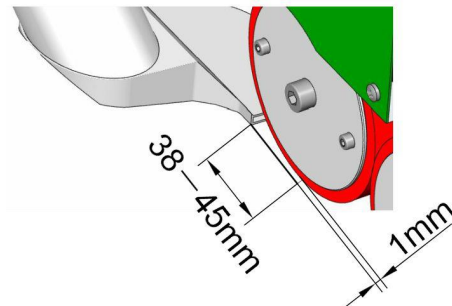

Figure 6
2. The distance between hot air nozzle and drive roller should be shown as figure 6. (We have adjusted the distance before leaving factory) . You can adjust hot air nozzle adjusting screw (28) if the distance is not right.